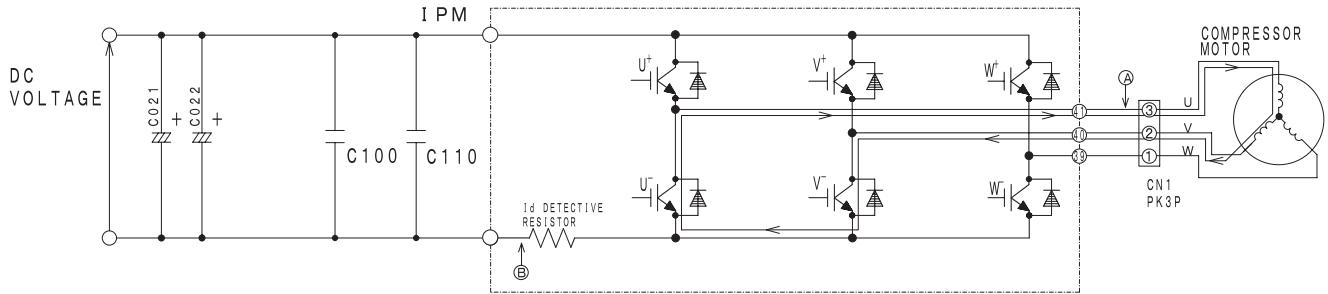

Fig. 4-4 Power module circuit (U+ is OFF, V- is ON)
At point (F): U+ is chopped (OFF), V- is ON (circuit in Fig. 4-4)
- (2) When U+ transistor is OFF: (by inductance of motor coil) U coil → V coil → V- transistor → U- diode → Point Ⓛ (Fig. 4-4)